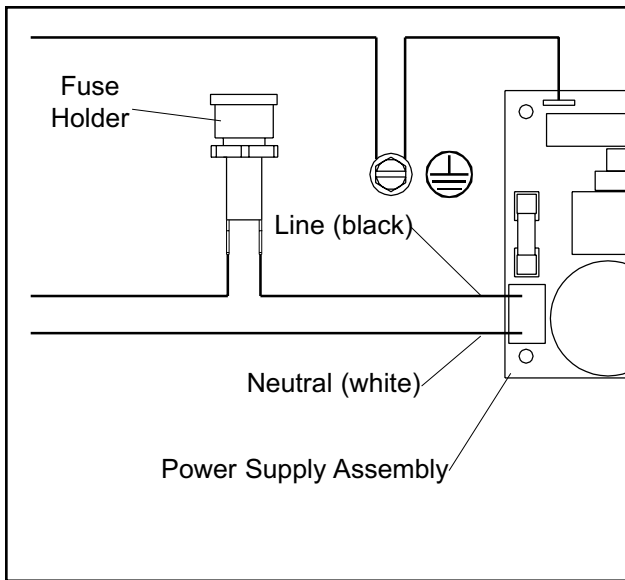

Figure 27: Power Supply AC Input Testing
10. Using a digital volt meter, measure AC voltage between white (neutral) and black (line) wires on back of power supply connector (Figure 27). Verify AC input voltage is 100 to 250 volts.